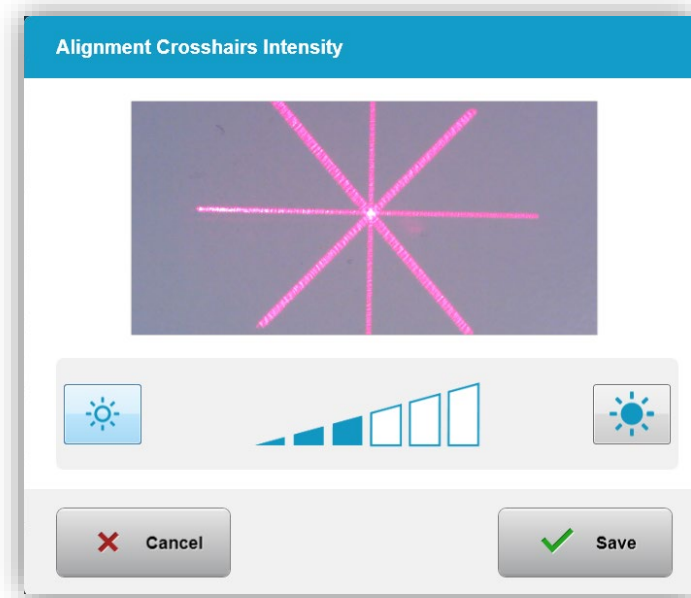

Figure 3-54. Alignment Crosshairs Intensity
- Select “Alignment Crosshairs Intensity” from the System Settings menu to alter the brightness of the alignment crosshairs. The screen shown in Figure 3-54 will appear.